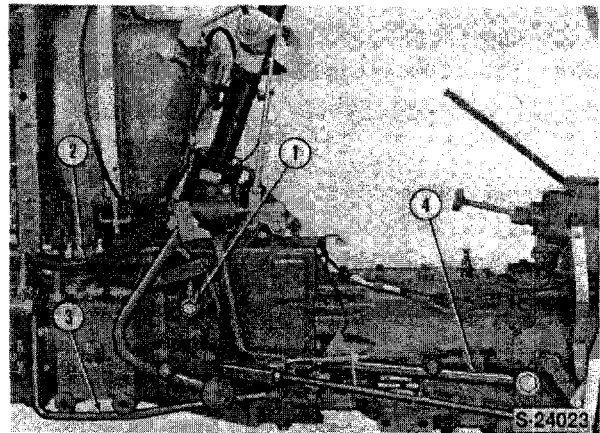

Figure 18
22. If equipped with hydrostatic transmission, disconnect the transmission to cooler tube at the hose connector (2), Figure 18.
23. Remove the cooler return tube (3), Figure 18.
9. Remove the eye bolts and remove the HST oil return tube (4), Figure 18.